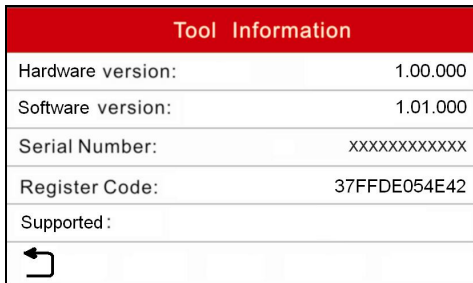

Figure 6-2
**Note:** You are strongly recommended to note down the Serial Number and Register Code in Figure 6-2 since these 2 pieces of information are required while registering your